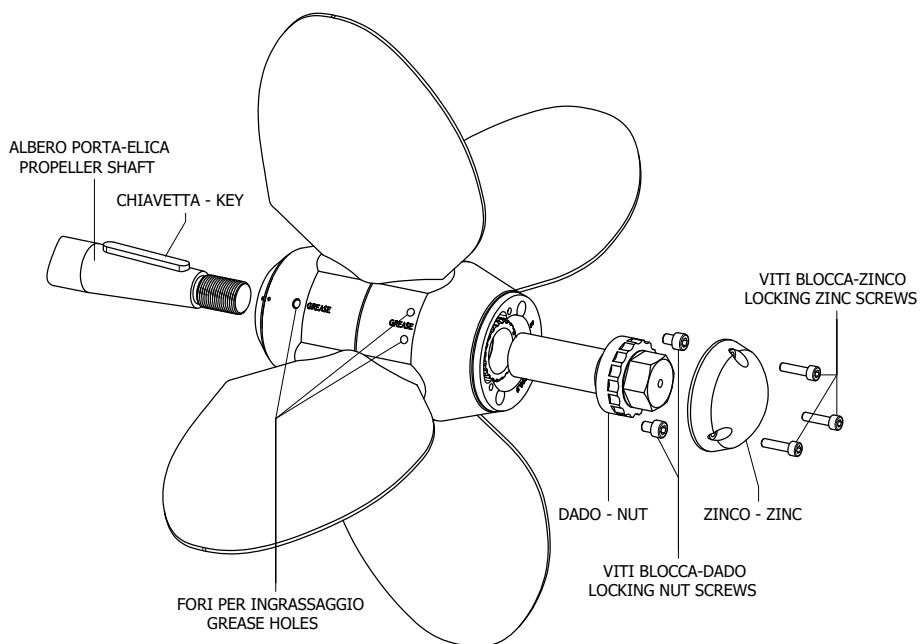

fig. 2
- a. Insert the already assembled propeller onto the propeller shaft (refer to fig. 2).